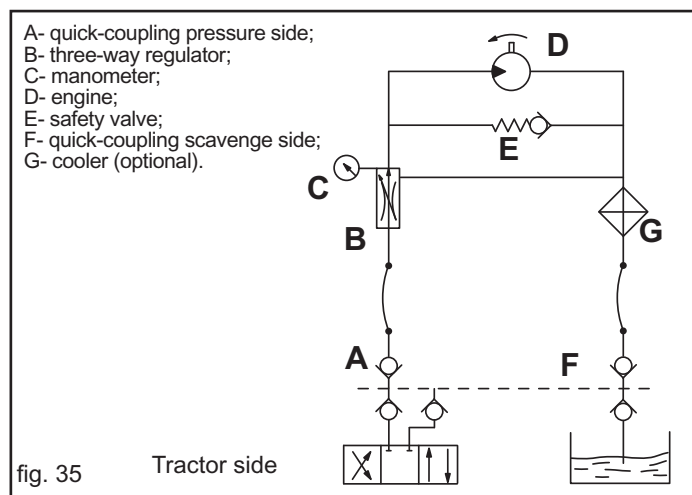

fig. 35 Tractor side
- dependent system:** connected to the tractor's system (Fig. 35).
- **Oil supply:** follow the data of the table in Fig 35. The hydraulic pipes must be connected correctly to the tractor distributors following the instructions on each pipe.
In tractors with a variable flow rate pump (closed hydraulic circuit), equipped with oil flow rate regulator, open the three-way regulator completely (B, Fig. 35) and, starting with a low oil flow rate, gradually open the internal regulator of the tractor circuit until the required pressure is reached as shown by the pressure gauge (C, Fig. 35).